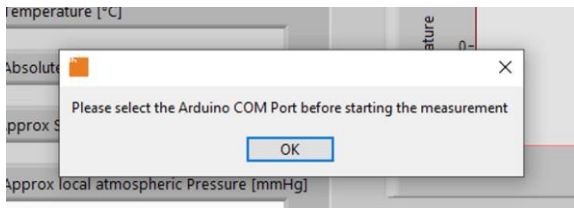

Figure 17. Error message if the COM Port is wrong.
3. Once step 2 is completed, click on ‘Start’ button to initiate the testing, if the selected COM Port is wrong, an error message will appear (Figure 17). Otherwise, the Arduino will start to send data.